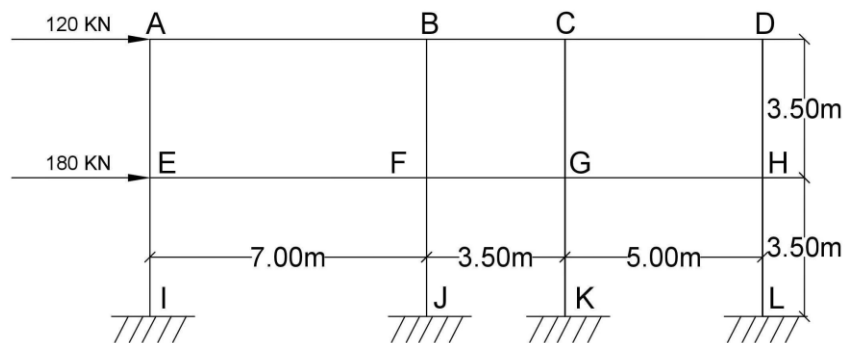

Figure 2.4
5. Using the portal method, analyze the building frame subjected to horizontal force (due to wind) as shown in Figure 2.4. Sketch the bending moment diagram.